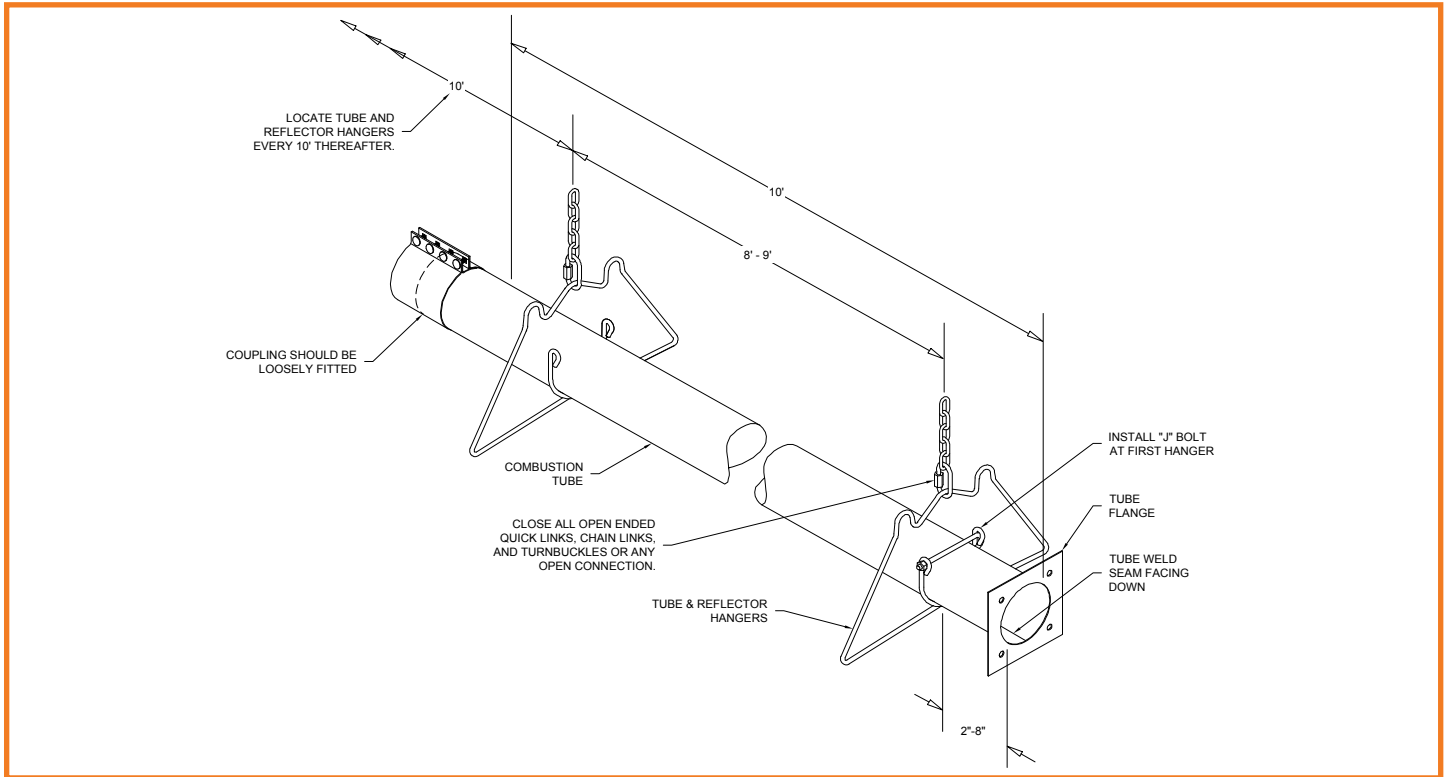

Figure 9: Installation of First Section of Flanged Tube
- Place the first (flanged, aluminized) tube in the first two hangers (Figure 9). Be sure the flange is toward the intended burner location. The other end of the tube should have the first coupling already loosely fitted.
- Always use all the hangers supplied. As a rule the combustion tube (first tube) utilizes 2 hangers and thereafter 1 hanger per 10' section. It is required that the first hanging point be 2" to 8" from the burner mounting flange, and tube weld seam must face down, refer to Figure 9 for more details.